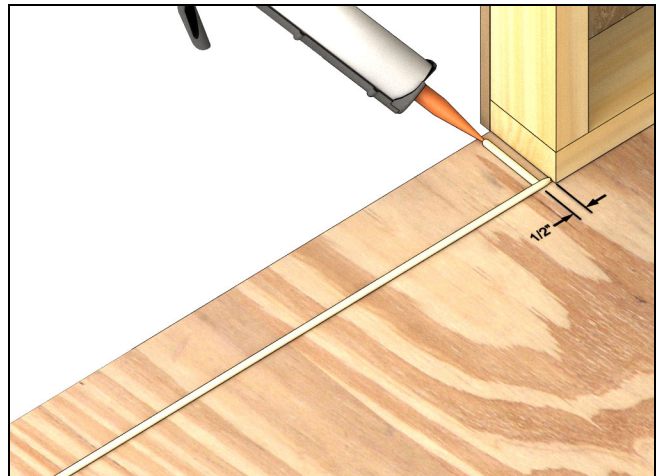

Figure 12
2. Apply a 3/8" (10) bead of sealant on the sub floor at the interior edge of the door opening. See Figure 12.